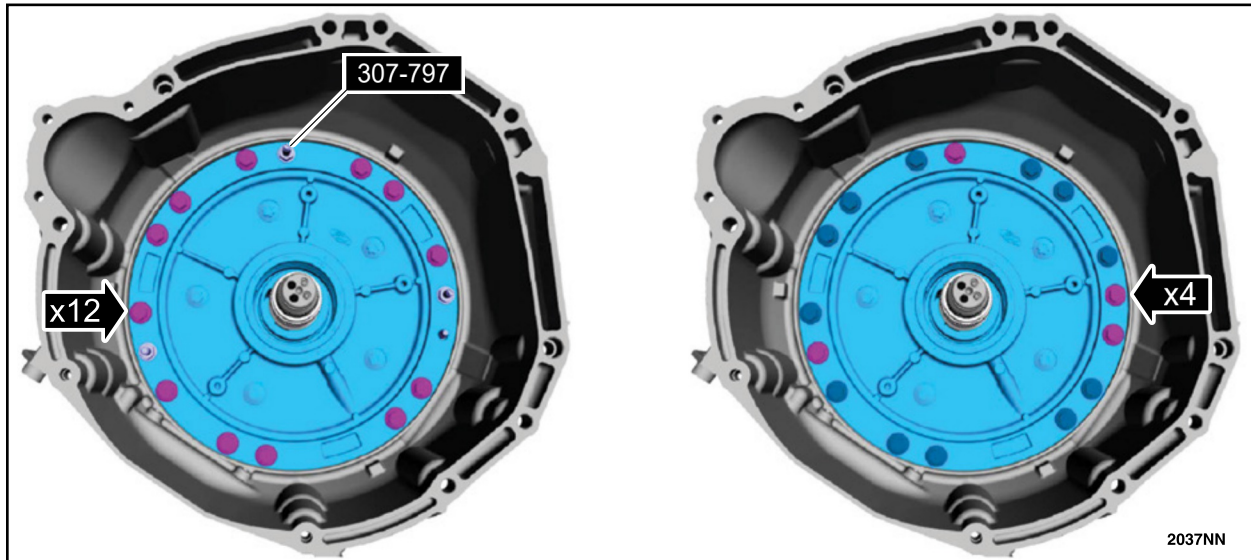

FIGURE 32
- Remove the special tools 307-797 and install the front support bolts hand tight. See Figure 32.